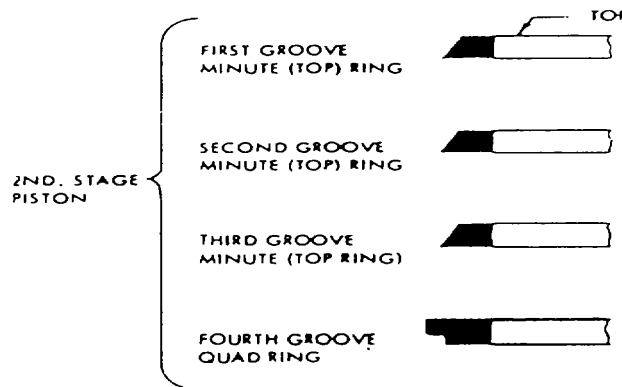

Figure 4-9. Compressor Second Stage Piston Ring Installation.
- (1) Install piston rings (40, Fig. D-4) into grooves in piston (39, Fig. D-4) as shown in Figure 4-9.